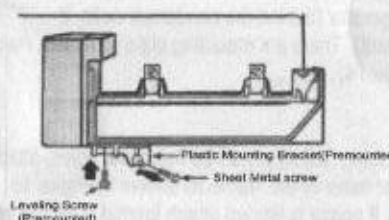
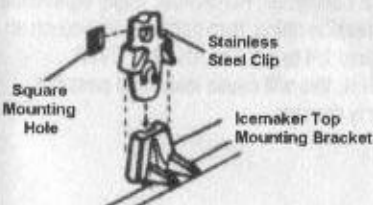
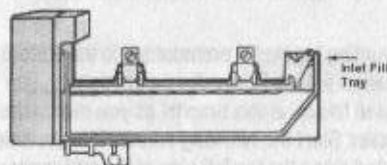

Figure 7
Figure 8
Figure 11
7. Mounting bracket is pre-mounted to the bottom of the icemaker (see Figure 7), do not tighten, you will need to adjust this bracket as you mount the icemaker. Start the two long screws into the holes provided along the top left side of the refrigerator. Level icemaker and tighten both screws. Alternate mounting; (see Figure 8) slip mounting clips into square mounting holes and push down until clips are firmly mounted.
10. Make sure the water inlet tube is in the fill tray (see Figure 11) and the electrical connection is correct. Insert the provided screw under the icemaker, level the icemaker and tighten all of the screws. You may need the fill tube extension if required, slip on to fill tube and twist into place. There are cutouts scored on the inlet fill tray for back or side fill. Level the icemaker (see Figure 7).